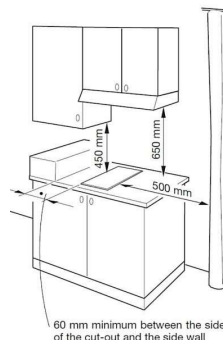

Figure 8.2
- There must be a distance of at least 650 mm between the hob and any wall cupboard or extractor hood positioned immediately above (Figure 8.2)